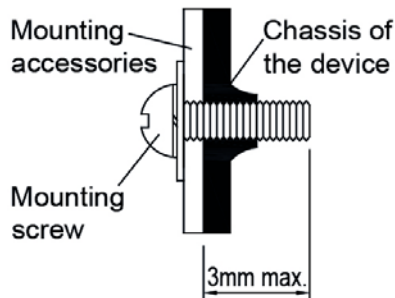

Fig. 4 Mounting Screw
- **For PMT and PML Series (Refer to Fig. 4):** Only use M3 screw  $\leq$  3mm (0.12 inch) through the base mounting holes. This is to keep a safe distance between the screw and internal components. Recommended mounting tightening torque: 4~7Kgf.cm (3.47~6.08 lbf.in).